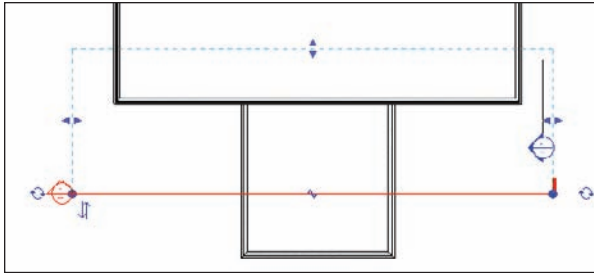

FIGURE 3.51 Adding another section to modify another wall
7. Place a section as shown in Figure 3.51. Make sure the extents are similar to the figure.